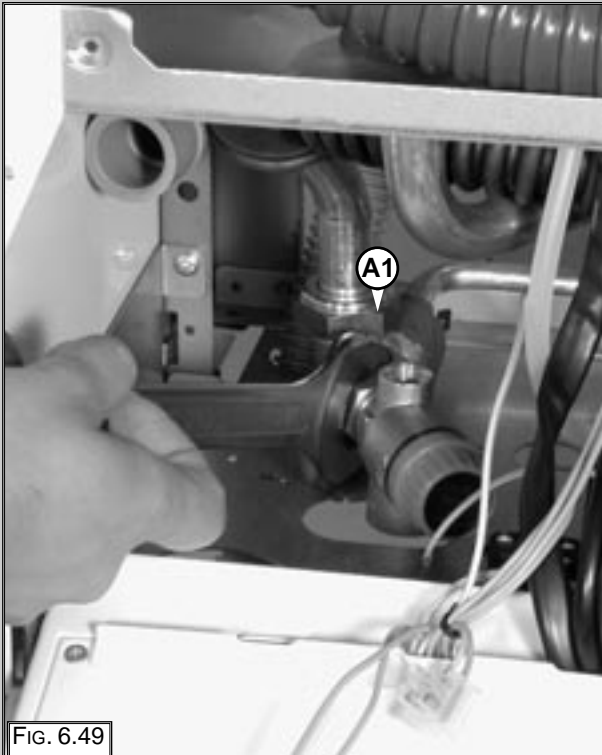

FIG. 6.49
1. Loosen union "A1" (Fig. 6.49);